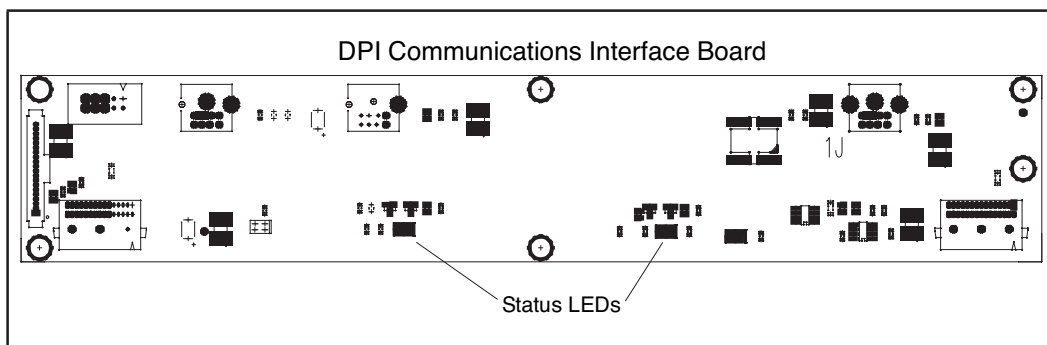

Fig. 48 — Communications Interface Board Status Lights
3. Verify that the status LEDs on the Communications Interface Board are not lit. See Fig. 48. The location of the Communications Interface Board is shown in Fig. 6.
3. Verify that the status LEDs on the DPI Communications Interface Board are not lit. See Fig. 48. The location of the Communications Interface Board is shown in Fig. 6.